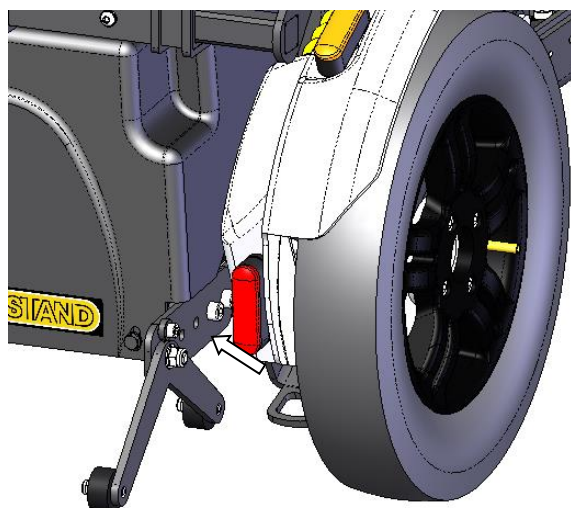

Figure 12 : anti-toggle position setting
- remove the two tilting screws (see Figure 12) on both sides of the chair